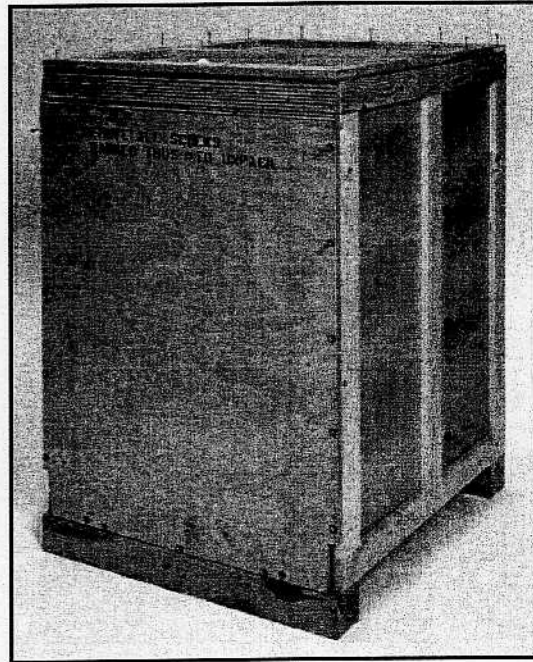

Fig. 4a
- i. Remove the screws circled on the top panel of the packing crate and remove the top (see Fig. 4a).
- ii. Remove the screws circled on the front panel (see Fig. 4a).